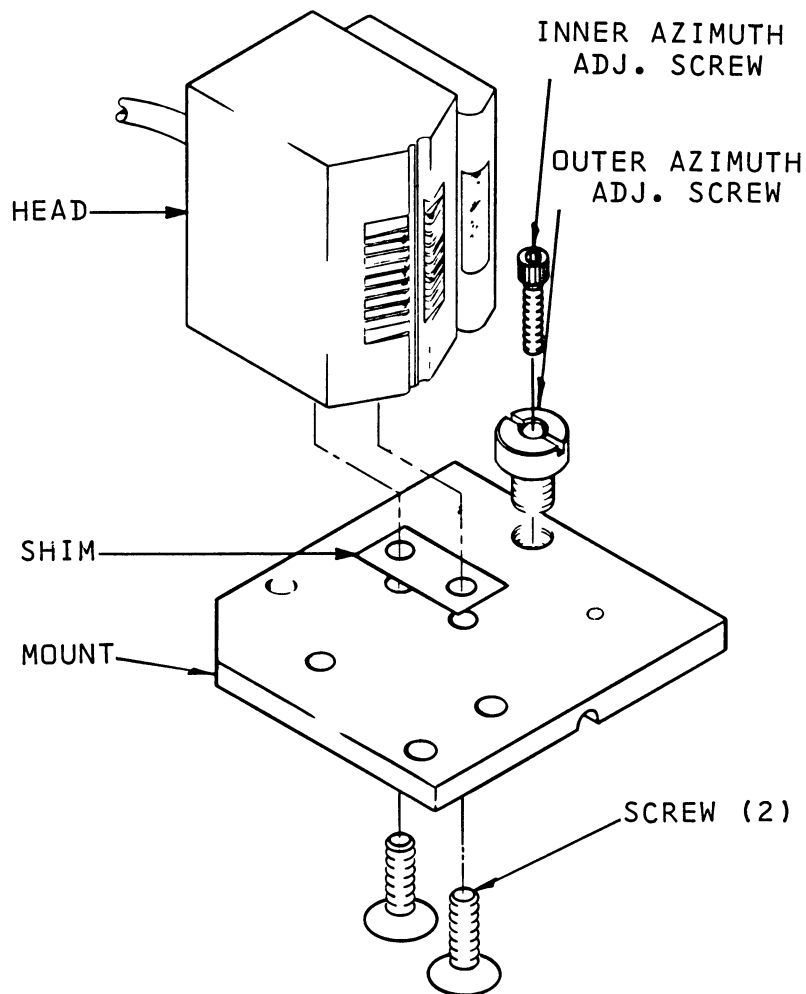

Figure 5-5. Head Assembly Adjustments
- d. Remove four screws securing head assembly to base plate (Figure 5-5).
- f. Feed wires and connectors of replacement head assembly carefully through hole, and secure head assembly to base plate with three socket-head screws not used for azimuth adjustment. Thread outer azimuth adjustment screw into head assembly mount (Figure 5-5), and thread inner azimuth adjustment screw loosely into it.